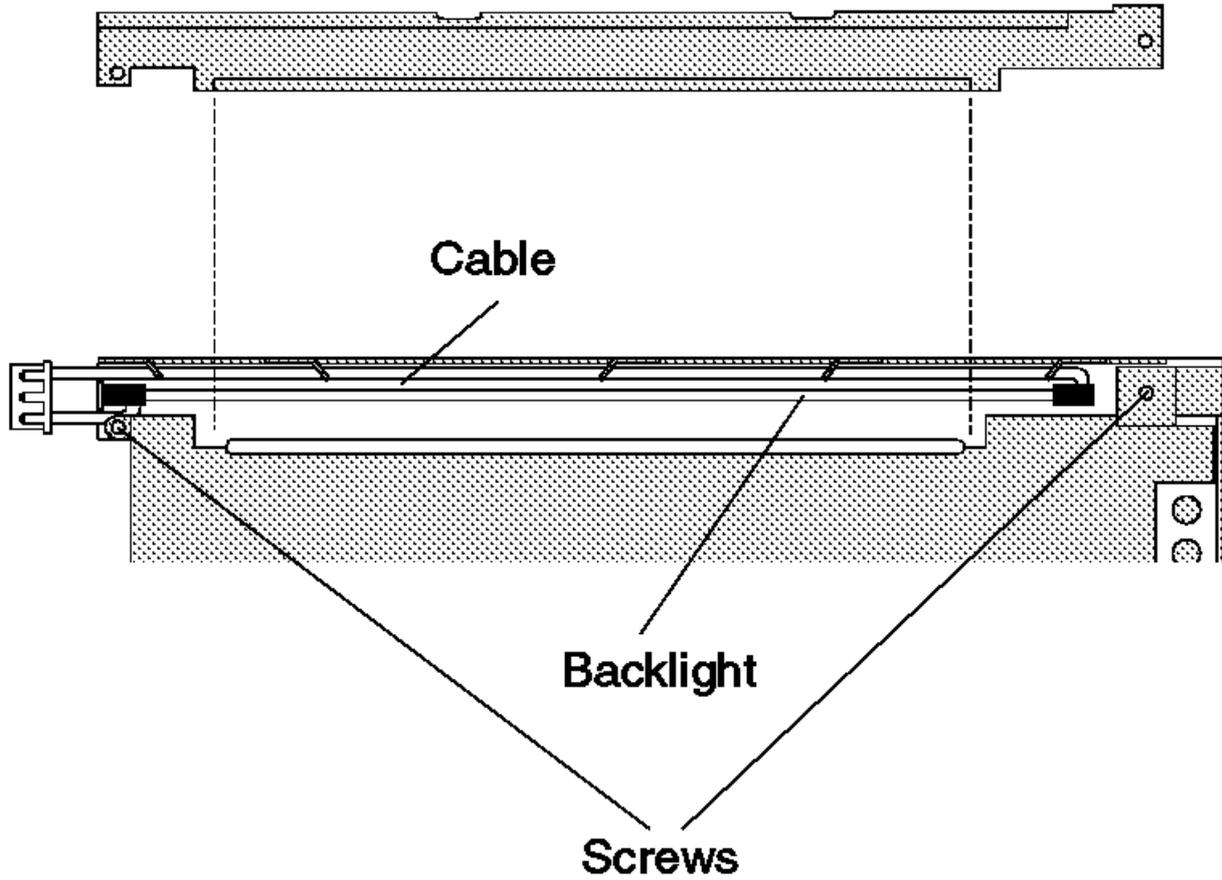

Figure 3-18. Reinstalling the Backlight Cover
- Make sure the cable is routed underneath the tabs, as shown in Figure 3-18 in topic 3.7.4.
- Make sure the backlight cover is first slide under the LCD rear cover shield, as shown in Figure 3-18 in topic 3.7.4, before installing the two screws.